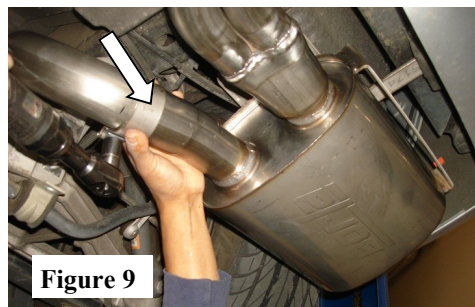

Figure 9
4. Place the RH Muffler Assembly by inserting expanded pipe (with clamp) over RH Over Axle Pipe. Bolt the rubber hangers into position. On manual transmission equipped models you should be able to slide muffler hangers back into their rubber brackets and attach mufflers to over axle pipe assembly using the hardware provided. (See Fig.9)